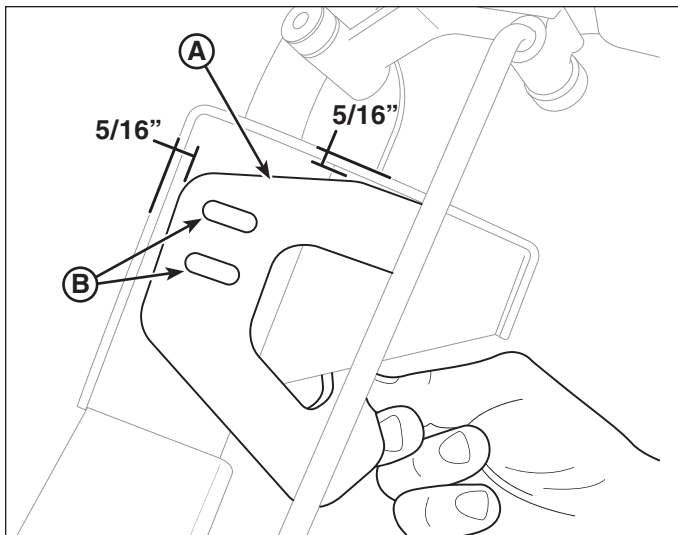
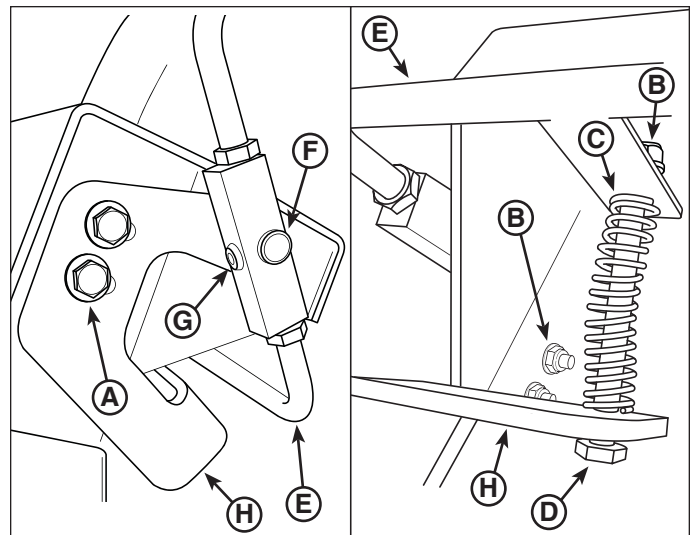
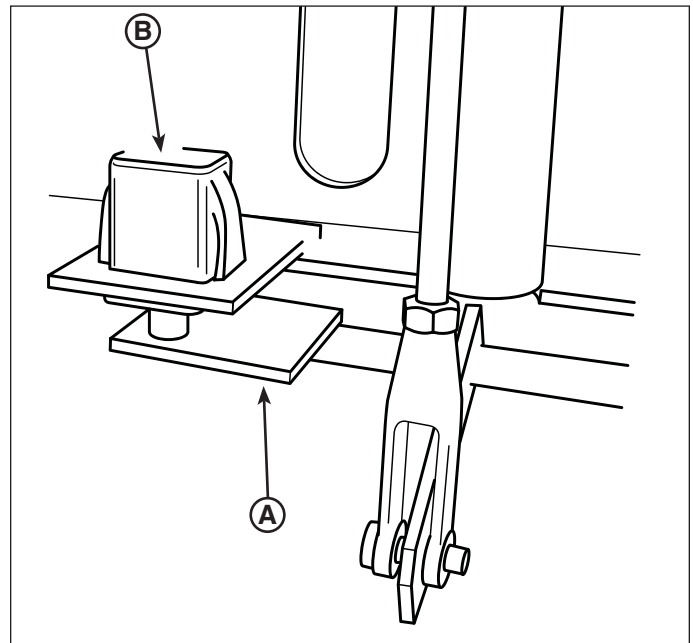

Figure 6. Drilling The Holes For Mounting
Figure 7. Installing the Mounting Bracket
Figure 8. OPC Switch
9. While holding the mounting bracket (A, Figure 6) in place, use the slots as guides to mark the location of the holes to be drilled (B). See Figure 6
10. Drill the two (2) 17/64 (.266") holes through the handle bars.
11. Install the mounting bracket (H, Figure 7) to the machine using two (2) 1/4" X 1" bolts and washers (A), secure them with two 1/4" nylock flange nuts (B).
12. Install a 1/4" X 3" bolt (D) up through the bottom of the mounting bracket (H), through the spring (C) and through the tab in the OPC connector rod (E), secure the bolt with a 1/4" nylock flange nut (B). See Figure 7.
13. Install the adjuster linkage onto the existing welded OPC switch tab on the right side of the unit, then insert the new 3/8" X 1" clevis pin (F) through the other adjuster linkage and into the mounting bracket on the left hand side of the unit.
14. Tighten down the 3/8" set screw (G) into the adjuster linkage on the left side of the unit.
15. With the new mechanical OPC handles in the down position, push and hold the OPC switch tab (A, Figure 8) up into the switch (B).